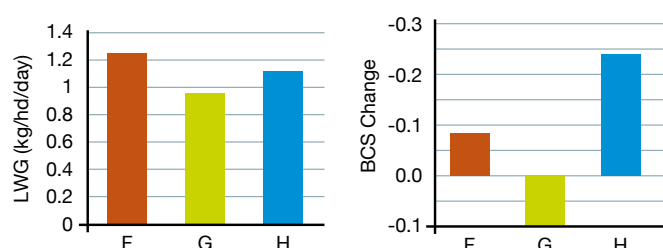

Figure 29. Average daily LWG and BCS change during the outwintering period across the three treatments
- Heifer BCS change was also lower at housing and parturition when fed G (Figure 29)